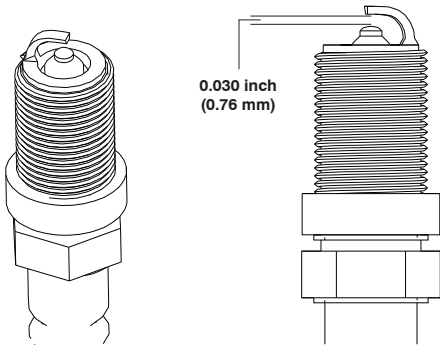

Figure 32
18. Set the gap on the plug to 0.030 inch (0.76 mm) (Figure 32).